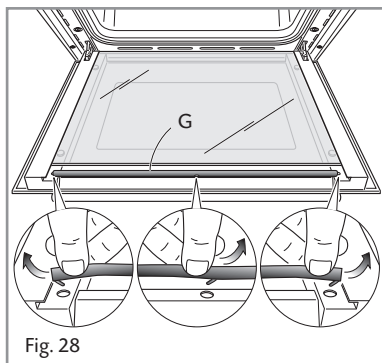

Fig. 28
- Remove the seal G by unhooking the no. 3 fixing hooks (fig. 28).